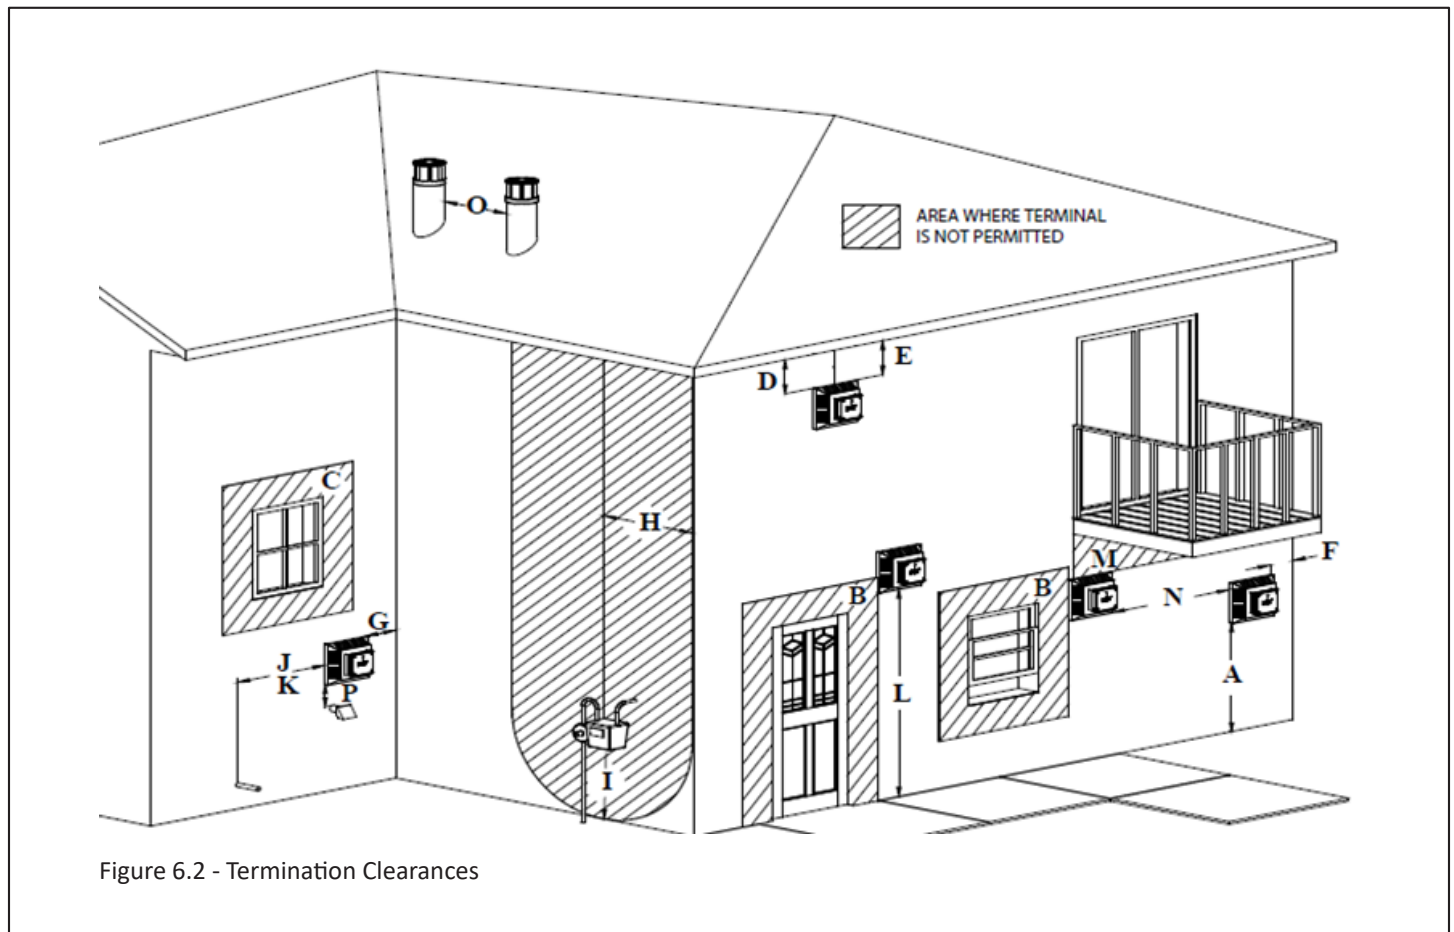

Figure 6.2 - Termination Clearances
- Refer to Figure 6.2 and the Table 6.1 below for natural draft vent termination clearance locations.